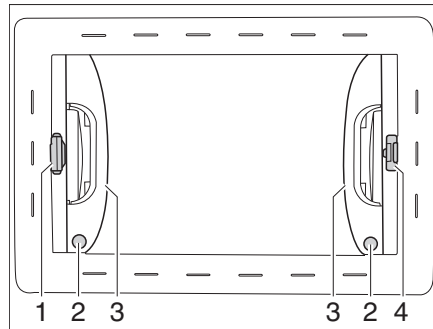

Fig. 27 Multifunction skylight
- Grip one handle (Fig. 27,3) with one hand respectively and bring the multifunction skylight into the desired position.
- When the multifunction skylight is opened upwards, press the locks (Fig. 27,2) and slide the multifunction skylight at the handles to the rear.
- Press the red release knobs at the handle (Fig. 27,1) together and pull the blind to the desired position using the handle.
- Press the red release knobs at the handle (Fig. 27,1) together. The latch is released.
- Pull the roller insect screen at the handle (Fig. 27,4) to the opposite handle of the blind (Fig. 27,1) and allow to engage.